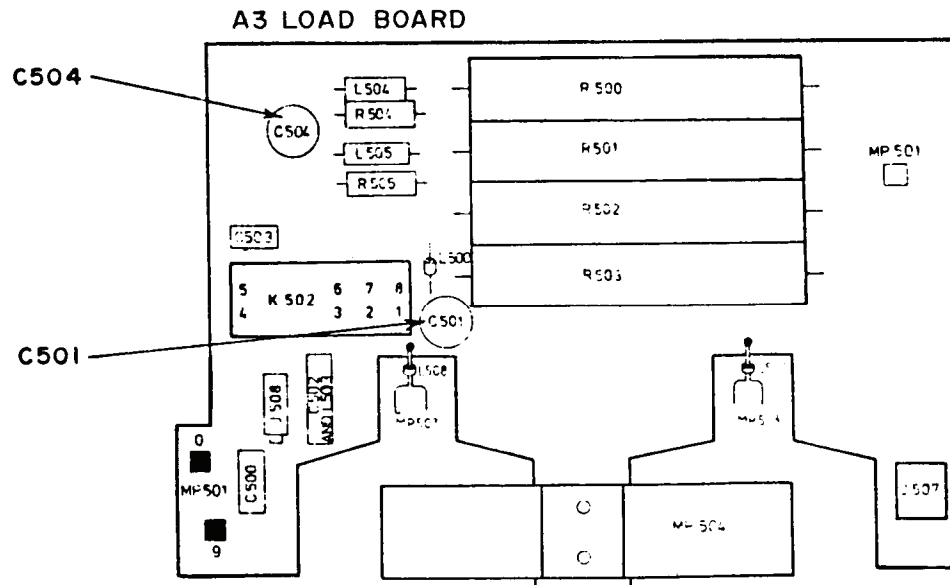

Figure 5. A3 (load board) - adjustment locations.
(14) Press **AMPLITUDE 10 - 30** pushbutton and set **AMPLITUDE VERNIER** dial to **3**.
(15) Adjust C501 (fig. 5) for an overshoot equal to pulse ringing (R).
(16) Adjust R487 and R421 (fig. 2) for flat pulse top, and adjust C504 (fig. 5) for optimum overshoot and ringing (R).
(17) Observe oscilloscope risetime, overshoot, and ringing. If risetime is not less than 15 ns, and overshoot and ringing less than 5 percent, readjust C501, C504 (fig. 5), R421, and R487 (fig. 2) for optimum pulse.
(18) Release **INT LOAD** pushbutton and repeat technique of (17) above.
(19) Press **AMPLITUDE 30-100** pushbutton and set **AMPLITUDE VERNIER** dial to **10 (100V)**. Repeat technique of (17) above.
(20) Press **INT LOAD** pushbutton and repeat technique of (17) above.